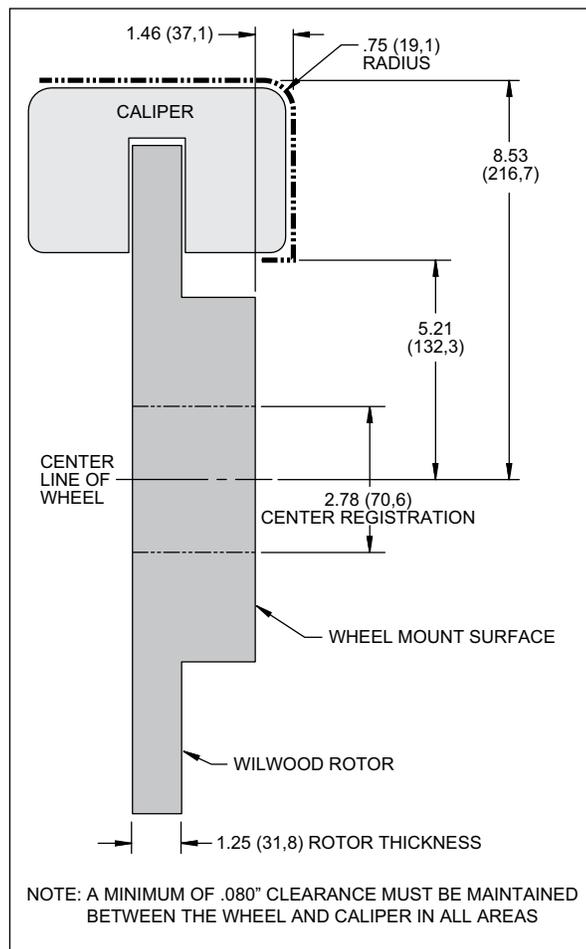

Figure 2. Wheel Clearance Diagram
• Make sure this is the correct kit to fit the exact make and model year of your axle and wheels. This kit is designed for direct bolt-on installation to 1997 through 2013 model year Chevrolet C5 and C6 Corvette hubs, but requires minimum of 18" diameter wheels. Check wheel clearance diagram, Figure 2.
• Verify your wheel clearance using Figure 2.